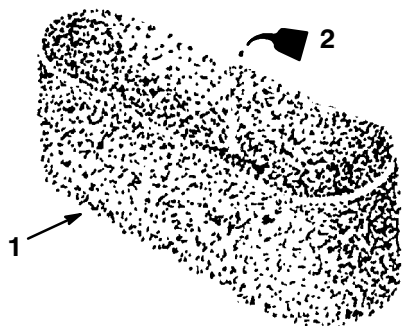

Figure 28
- C. Put one or two ounces of oil on the element (Fig. 28). Squeeze the element to distribute the oil.